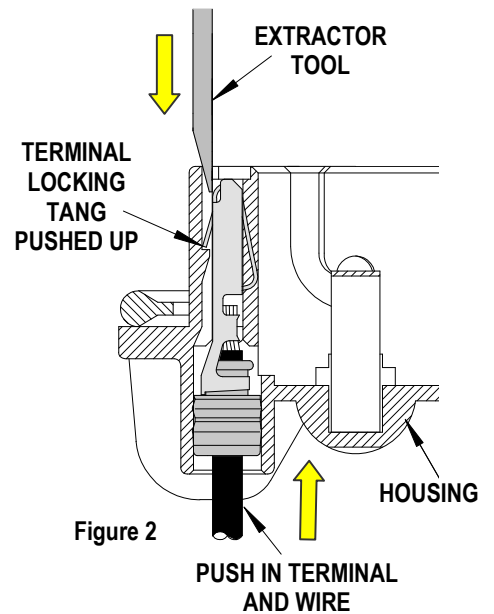

Figure 2
4. Pull the crimp wire back through the connector slot in the arrow direction as shown in Figure 2.